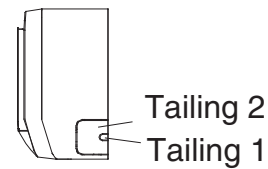

Fig.20
- When routing the piping and wiring from the left or right side of indoor unit, cut off the tailing from the chassis in necessary. (As shown in Fig 20)